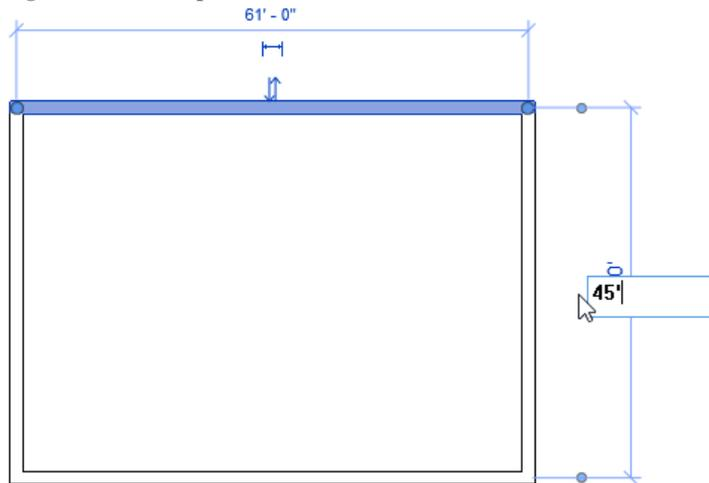

Figure 3-78 Entering vertical dimension in the edit box
- Click on the vertical temporary dimension and enter **45'**(13716 mm) in the edit box displayed, as shown in Figure 3-78 and press ENTER.